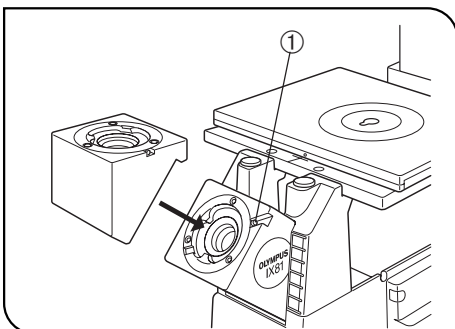
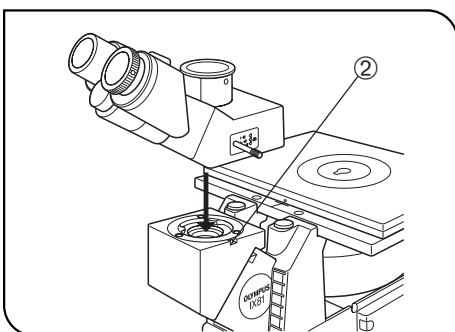

Fig. 81
Fig. 82
(Figs. 81 & 82)
1. Using the Allen screwdriver, loosen the observation tube clamping screw ① on the observation tube mount. (Fig. 81)
2. Insert the circular dovetail mount of the intermediate tube into the observation mount so that its upper surface is flush with the microscope frame. Tighten the observation tube clamping screw ① to clamp the intermediate tube.
3. Using the Allen screwdriver, loosen the observation tube clamping screw ② on the intermediate tube's observation tube mount. (Fig. 82)
4. Insert the circular dovetail mount of the observation tube into the intermediate tube's observation tube mount so that the binocular eyepiece sleeves face toward the front. Then tighten the observation tube clamping screw ② firmly. (Fig. 82)